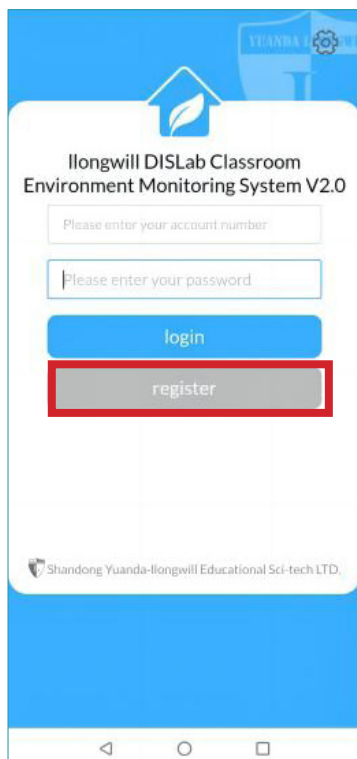
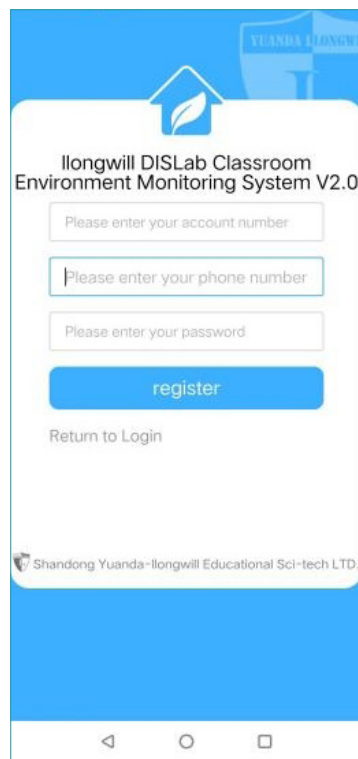

Figure 11
Figure 12
After the installation is completed, users can open the application for the first time and enter the App login page, as shown in Figure 11. If the user has not registered an account for the first time, please click the "register" button to enter the user registration page (as shown in Figure 12). The following steps need to be taken to register: ①Enter the account name. This account name is used for your future login (it is recommended to choose the school or class name as the preferred account name, as well as the specific name that the user likes); ②Enter the user's phone number; ③Confirm and enter the password, click on "register" to complete the registration.